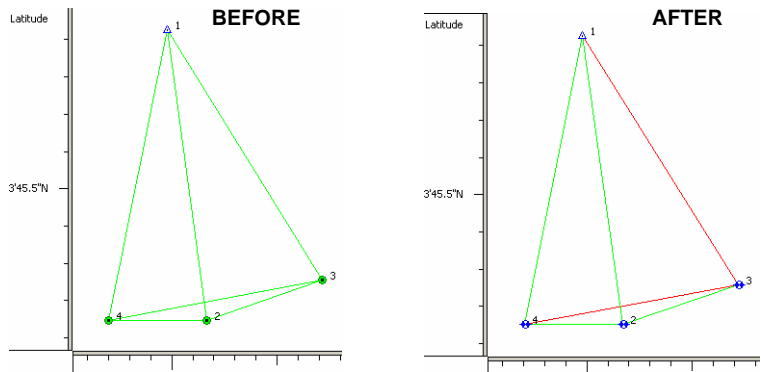

Figure 6-30. Map View – Example of Adjustment
- In the Map view, adjusted points are displayed as a circle icon with equatorial lines, and observations are displayed as red lines if a component(s) of this observation was rejected from the network adjustment (Figure 6-30).